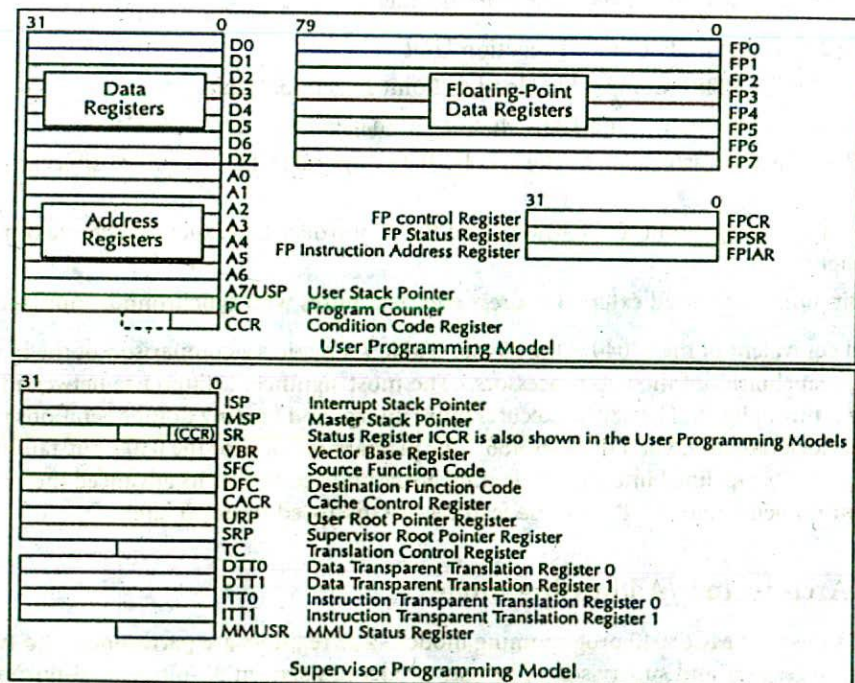

FIGURE 7.27 68040 programming model.
Figure 7.27 shows the MC68040 programming model. The registers are partitioned into two levels of privilege: user and supervisor. The user model has sixteen 32-bit general-purpose registers (D0-D7 and A0-A7), a 32-bit program counter (PC), and a condition code register (CCR) contained within the supervisor status register (SR). The MC68040 user programming model also incorporates the MC68882 programming model consisting of eight 80-bit floating-point data registers, a floating-point control register, a floating-point status register, and a